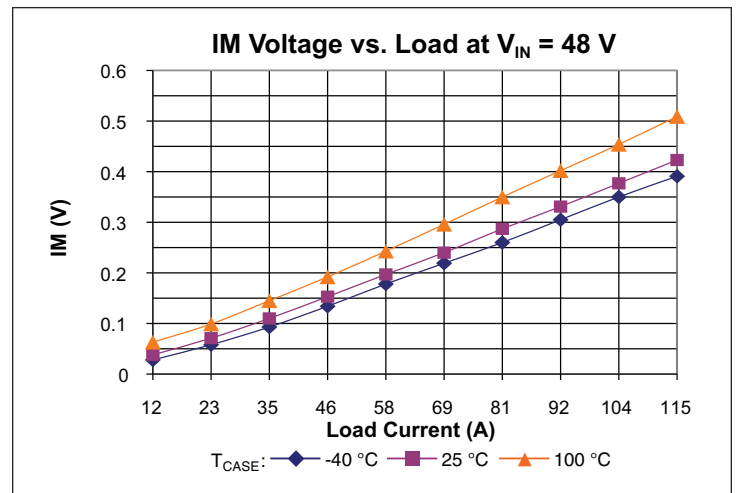

Figure 14 — IM voltage vs. load
**Current Monitor (IM)** pin provides a voltage proportional to the output current of the VTM module. The nominal voltage will vary between 0.07 V and 0.61 V over the output current range of the VTM module (See Figures 14–16). The accuracy of the IM pin will be within 25% under all line and temperature conditions between 50% and 100% load.